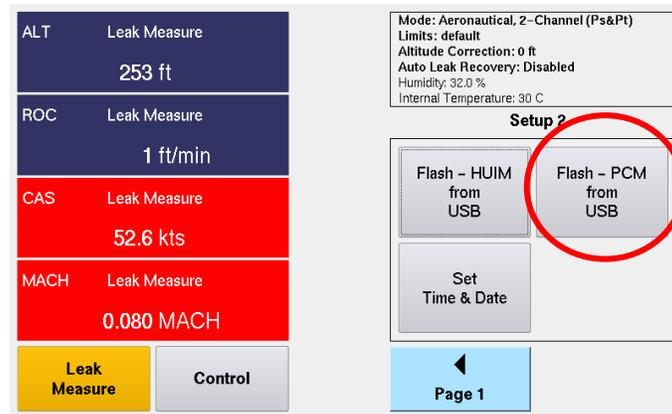

Figure 1.12 Software Update Screen
- If the “Warning – PCM Firmware Requires Updating” is displayed, select “OK”. The software menu appears. Touch “Flash – PCM from USB” as shown in Figure 1.12 below: